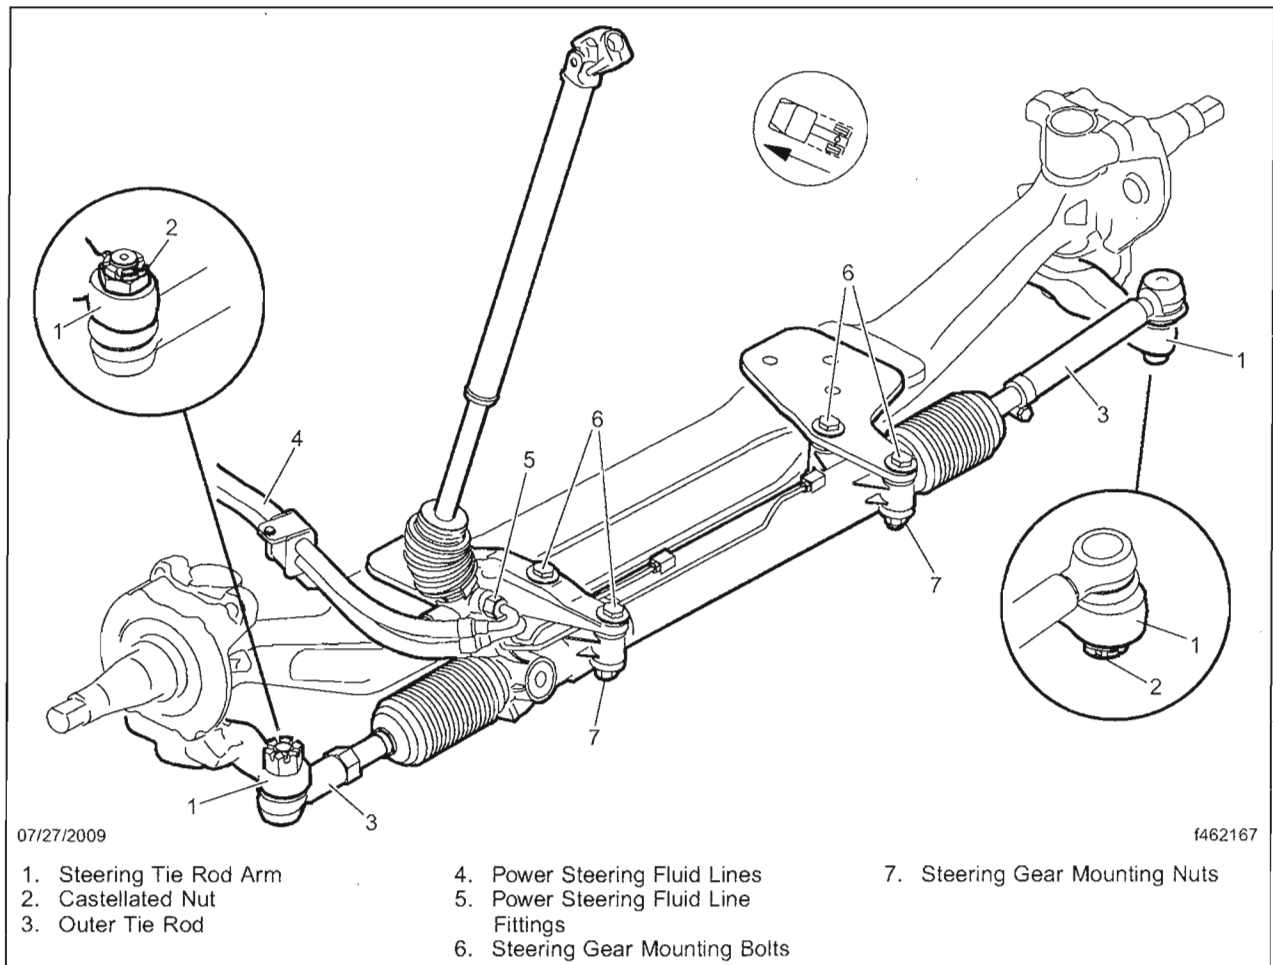

Fig. 6, Rack and Pinion Steering Gear Assembly
24. Using new mounting bolts and nuts (**Fig. 6**, Items 6 and 7), install the steering gear on the axle. Tighten the fasteners 229 lbf·ft (311 N·m).